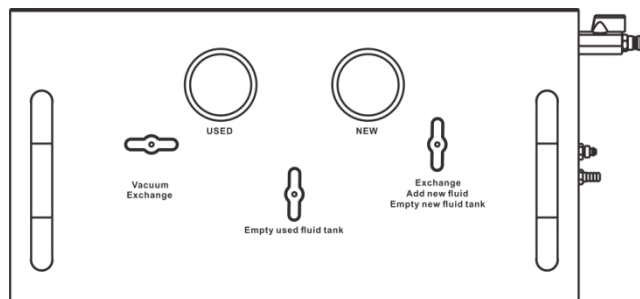

Fig.7
5. Open “Vacuum/Exchange” panel valve and hand valve on the wand. Then open shop air, the equipment starts to suck the fluid in overflow tank; (Fig.7)